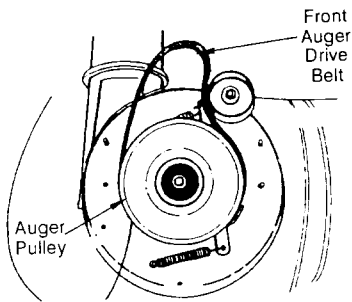

FIGURE 27
- To remove the front auger drive belt, push the idler pulley to the left, and lift front auger drive belt from the front auger pulley. See figure 27. Replace both auger drive belts by following instructions in reverse order.